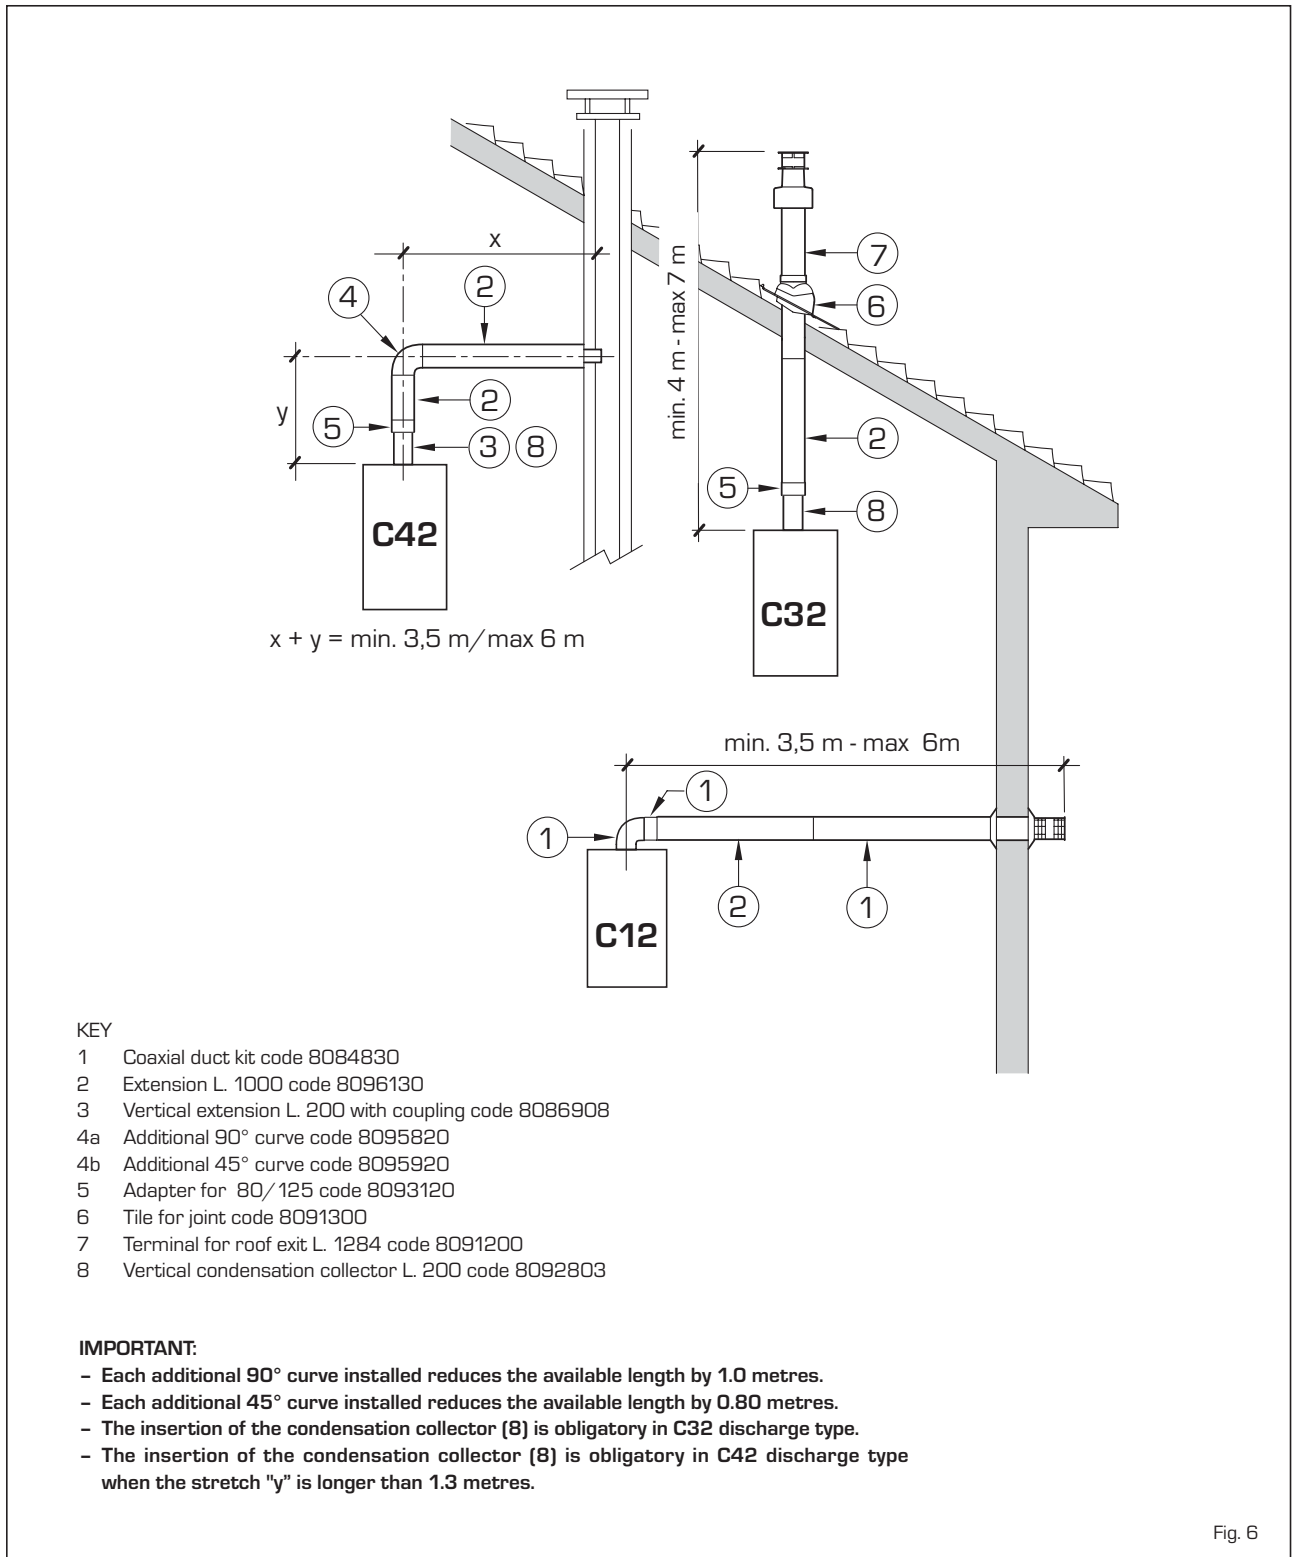

Fig. 6
2.7.3 Accessories ø 80/125 (fig. 6)
The diagrams in fig. 6 show some examples of the different types of ø 80/125 coaxial discharge modalities.